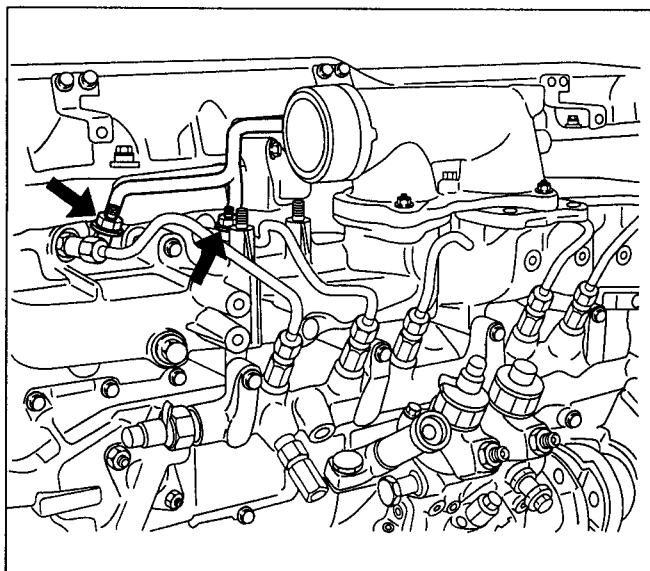
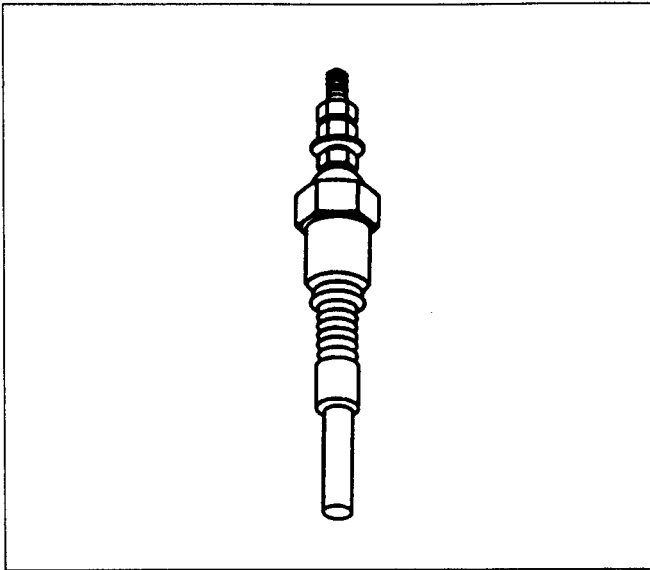

Figure 1 - Glow Plugs
Figure 2 - Glow Plug
Diesel engines rely on the heat of compression to initiate combustion. Cold engine start-ups may require extra engine cranking time to create the necessary heat to ignite the diesel fuel. One of the devices available to aid in cold starting the diesel engine are glow plugs. Six glow plugs are used to preheat the combustion chambers as an aid to starting (Figure 1). The glow plugs (Figure 2) are 10.5 volt heaters, operated at 12 volts, when the engine control switch is turned to the "H" position. This provides a pre-heat feature to the combustion chamber and improves cold engine start ups.
GLOW PLUGS**Remove or Disconnect (Figures 1, 2 and 4)**
**Install or Connect (Figures 1, 2 and 4)**